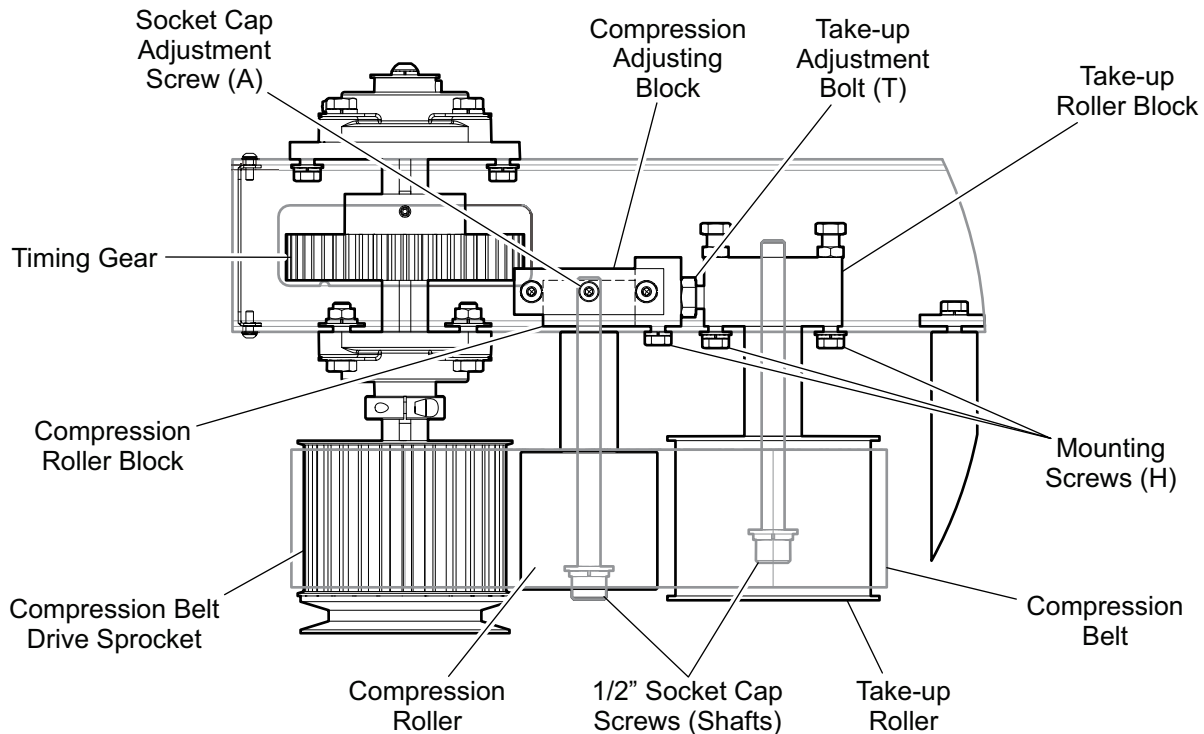
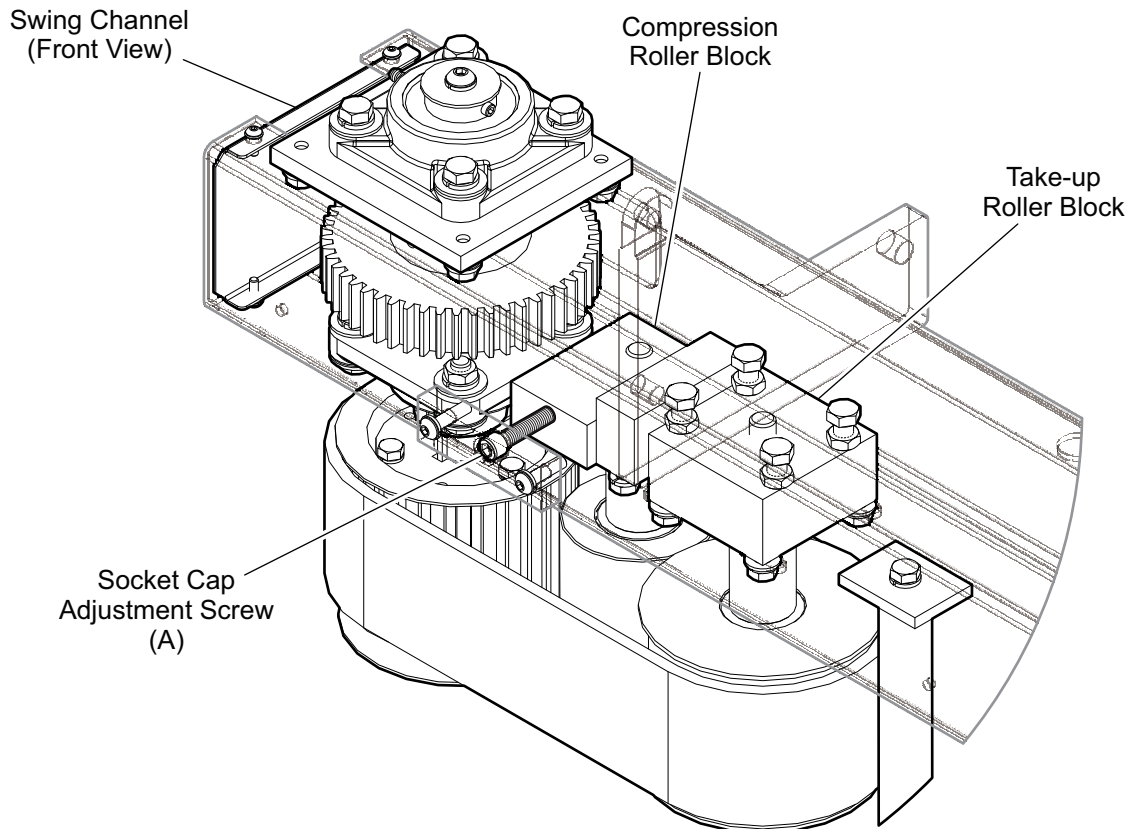

Figure 5-9: Swing Channel Compression Roller Components
Figure 5-10: Front Compression Roller Adjustment
3. The front compression roller assembly is held in position by the ½ inch socket cap screw, which acts as the shaft for the roller. To move the compression roller, loosen the screw just enough to allow the block to move. Loosening the screw too much will allow the screw (shaft) to skew too much to accurately align the compression belt (see Figure 5-9: Swing Channel Compression Roller Components).
4. The front (swing channel) compression roller's position is controlled by its block inside the channel. Between the block and the front wall of the swing channel is a socket cap screw (A), which passes through the channel wall and front shrouding (see Figure 5-9: Swing Channel Compression Roller Components). Turning the screw so that it rotates clockwise into the block, the roller is moved away from the centerline between the channels, which reduces the pressure between the belts. If the screw is rotated counterclockwise out of the block, the roller is pushed away from the front of the machine and causes the pressure between the belts to increase (see Figure 5-10: Front Compression Roller Adjustment).